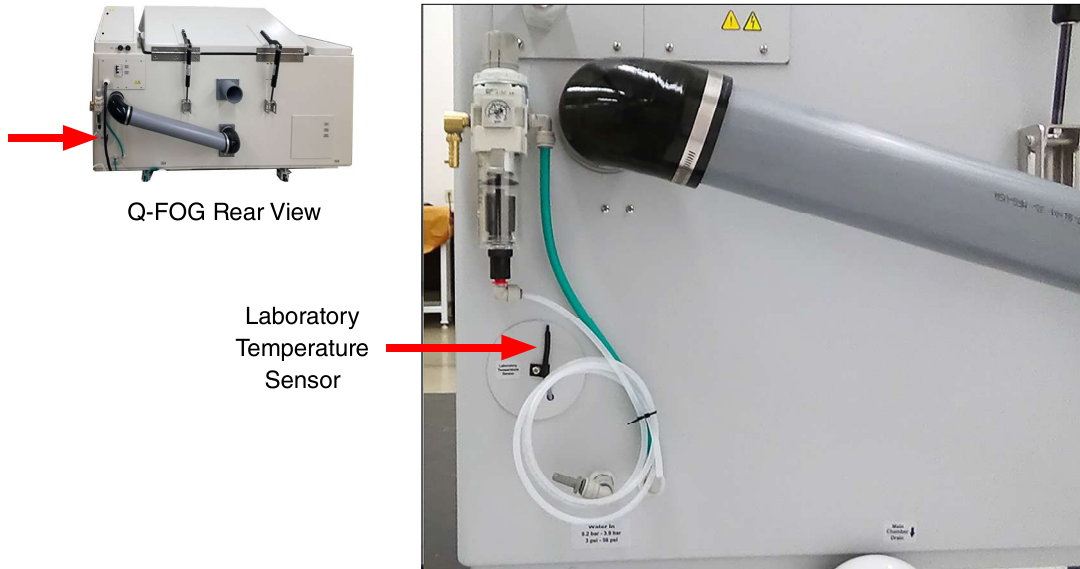

Figure 8.11: Laboratory temperature sensor location.
- A temperature sensor is mounted on the lower left rear of the Q-FOG cabinet (Figure 8.11).